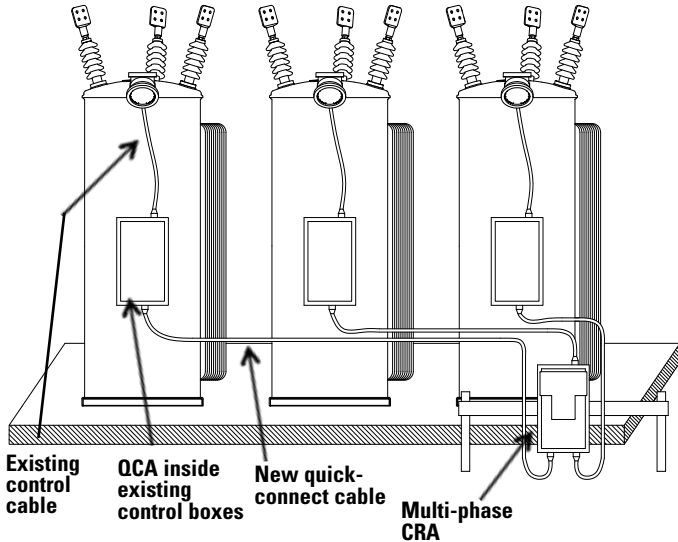

Figure 13. Existing control boxes are converted to junction boxes using QCAs. New quick connect cables and multi-phase CRA are added.
*This is the option shown in Figure 13.